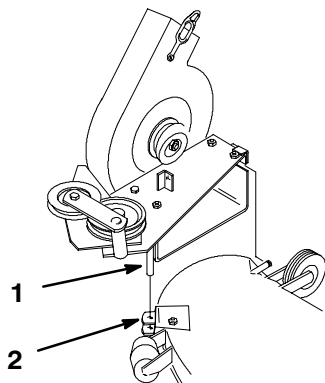

Figure 9
1. Insert pivot pin on blower into pivot support bracket on mower (Fig. 9).